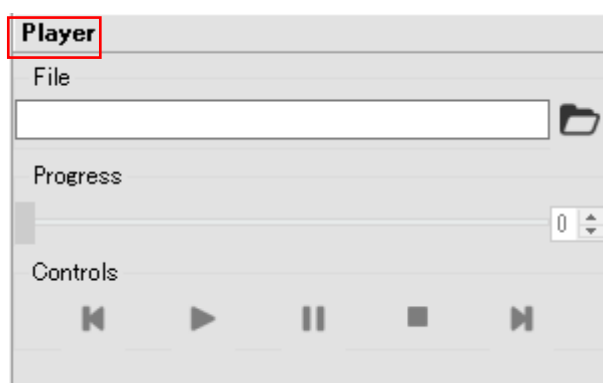

Figure 7-49 Log player window
- Select the log data file for re-playing (Figure 7-49).